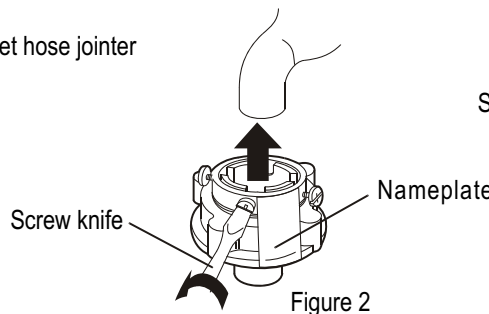
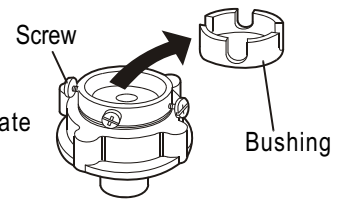

Figure 2
Figure 3
- 2 Loosen the four screws of the water inlet hose jointer till the water faucet can be accessed. Then set the water inlet hose jointer on the faucet. See to Figure 2. If the faucet is too large and the jointer cannot be set on, please loosen the four screws and take out the bush inside the jointer. See to Figure 3.